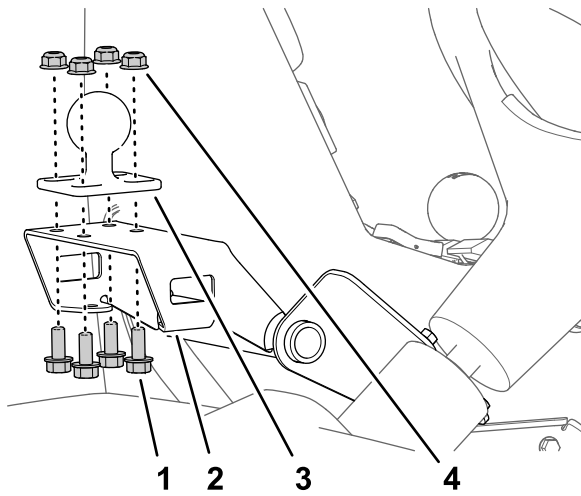

Figure 174
- Assemble the ball mount to the bracket for the monitor mount (Figure 174) with the 4 flange-head bolts (5/16 x 3/4 inch) and 4 flange locknuts (5/16 inch).